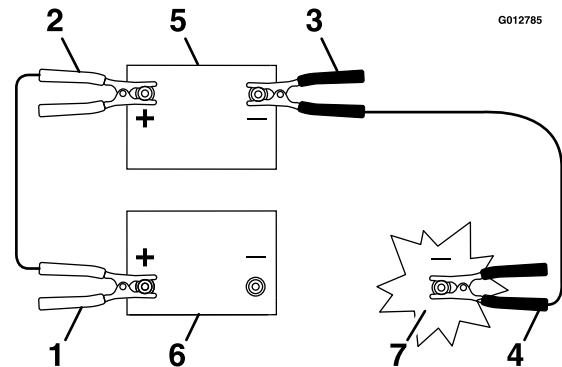

Figure 37
3. Connect the positive (+) cable to the positive (+) terminal of the discharged battery that is wired to the starter or solenoid as shown in Figure 37.